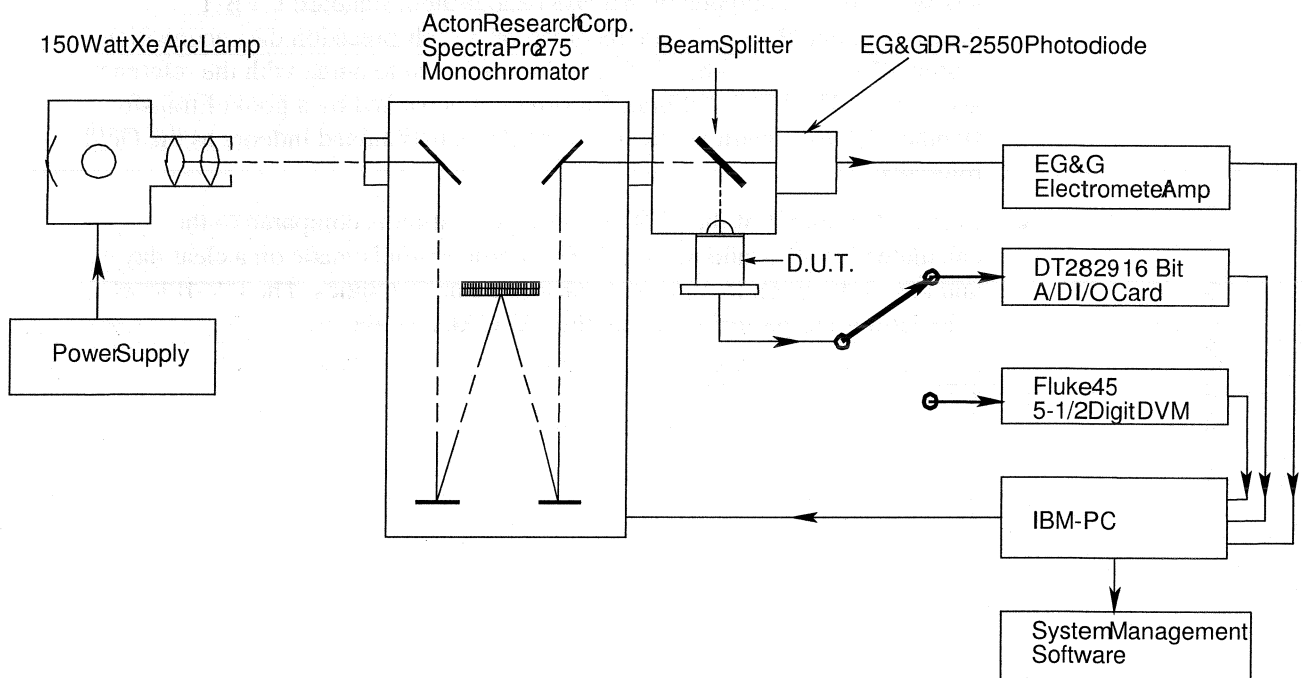

Figure 4-3. Spectral Calibration Facility
- First, the spectral calibration configuration shown in Figure 4-3 on page 4-7 is used to provide a NIST-traceable measurement of the absolute responsivity near the peak of the spectral response.